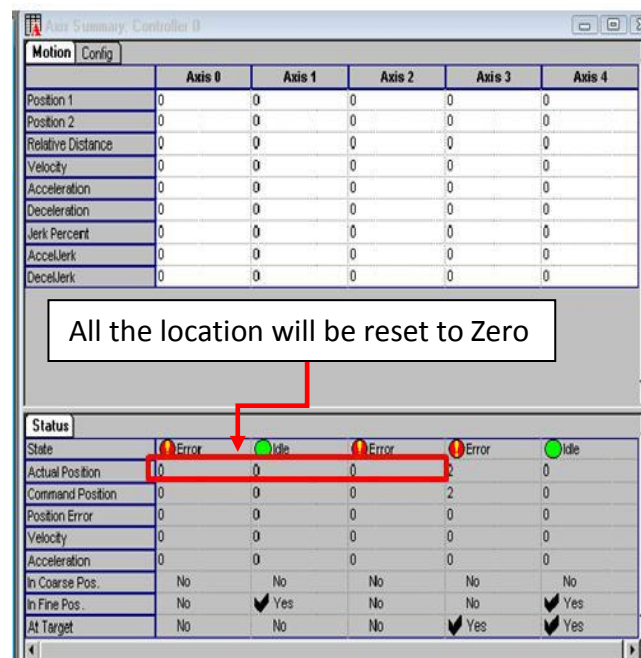

Figure 17 Axis Summary (Actual Position)
22. Go to the Panel Positioner tab and click Initialize. The limit sensor status for the Y-axis should be clear. Disable the Motion for the X-axis and Y-axis as shown in Figure 17. Close the X-ray source and open the front door.